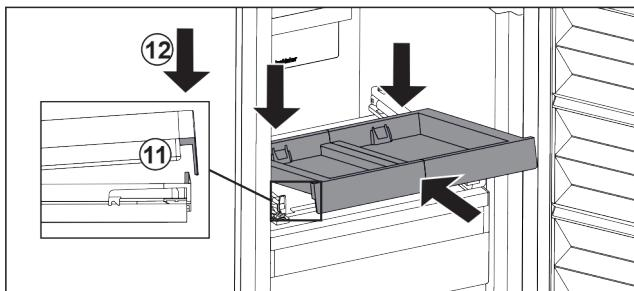

Fig. 100
- Slide it in at an angle. Make sure that the stop is behind the lug on both sides. Fig. 100 (11)
- Lower the pull-out board at the front. Fig. 100 (12)